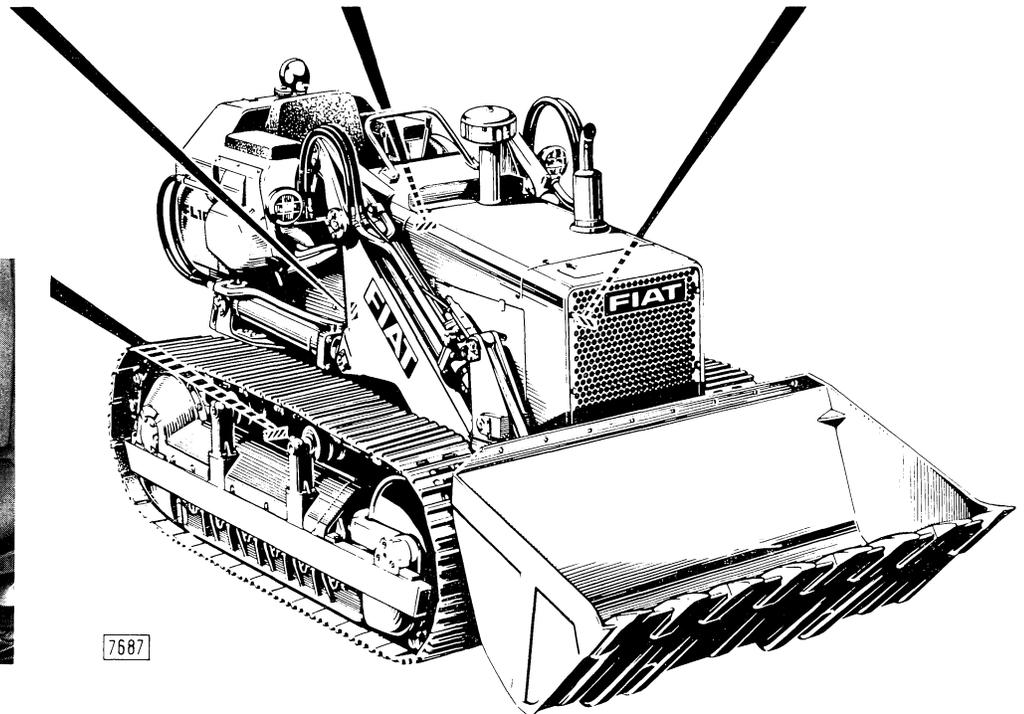

Fig. 2 - Location of Identification Data on the Machine.
- Tractor model (marketing code) and chassis number (see Fig. 2).
- Engine type and number (see Fig. 2).